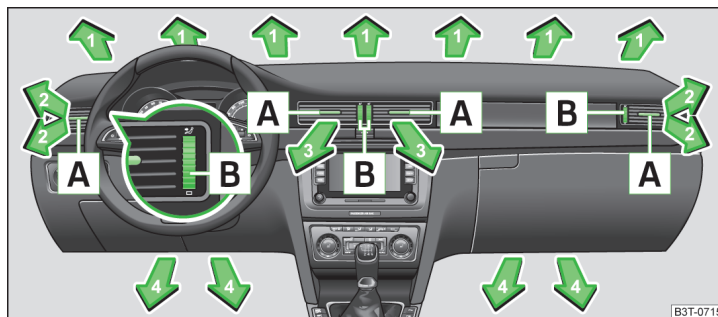
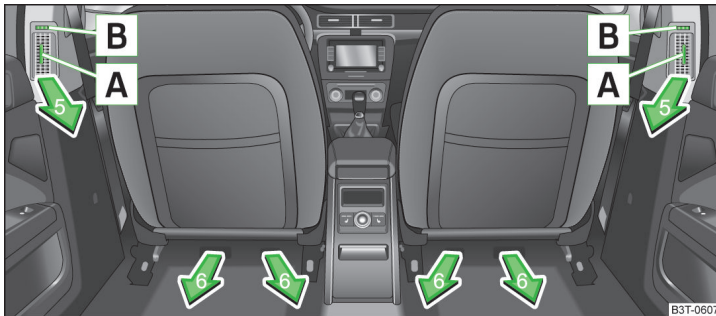

Fig. 122 Air vents at the front
Fig. 123 Air vents at the rear
The direction of airflow can be adjusted using the air outlet vents **2**, **3** » Fig. 122 and **5** » Fig. 123 - the outlets can be opened and closed individually.
- ▶ To adjust the height of the air flow, turn the horizontal vanes up or down with the movable adjuster **A** » Fig. 122 » Fig. 123.
- ▶ To change the lateral direction of the air flow, turn the vertical fins with the movable adjuster **A** » Fig. 122 or » Fig. 123 to the left or right.
- ▶ Turn the knob **B** » Fig. 122 and » Fig. 123 to position to fully open the air outlet.
- ▶ Turn the knob **B** » Fig. 122 and » Fig. 123 to position **0** to close the air outlet.
We recommend that you leave the air outlet vents 3 » Fig. 122 on page 108 in the opened position.